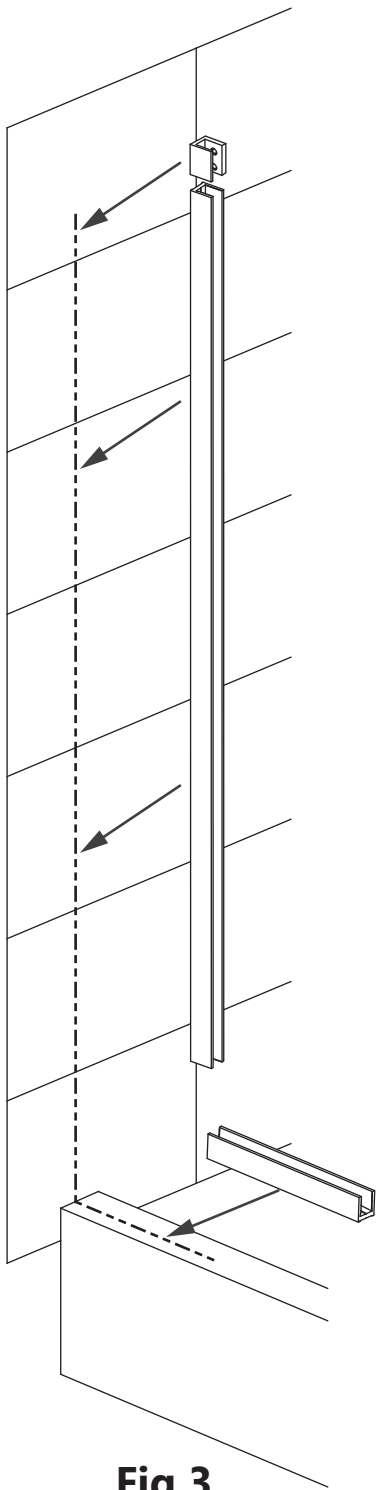

Fig 3
3. Position the u-channels and Hinge Panel Glass Bracket on the centerlines to mark the holes for drilling. **(Fig 3)**